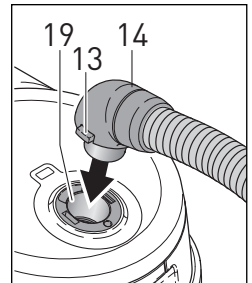

Figure 1
## BEFORE YOU USE YOUR NEW D4 - Figures 1, 2, 3 & 4
1. Push the neck (14) of the hose (11) into the suction opening (19) of the canister (figure 1). When all four notches are lined up correctly, the neck will snap firmly into place. To release the hose from the suction opening, squeeze the release tabs (13) on both sides of the neck (14) and pull the neck out. Before proceeding, connect the hose to the canister.